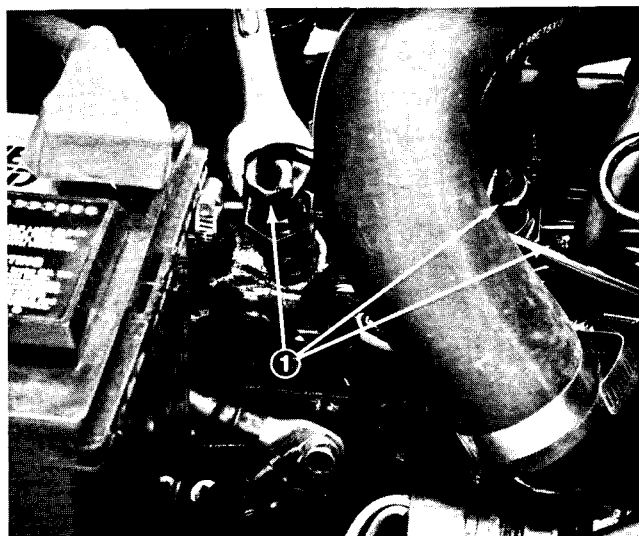

Figure 41
1. Loosen the pipe connection at the number one nozzle and holder assembly on the cylinder head (Fig. 41).